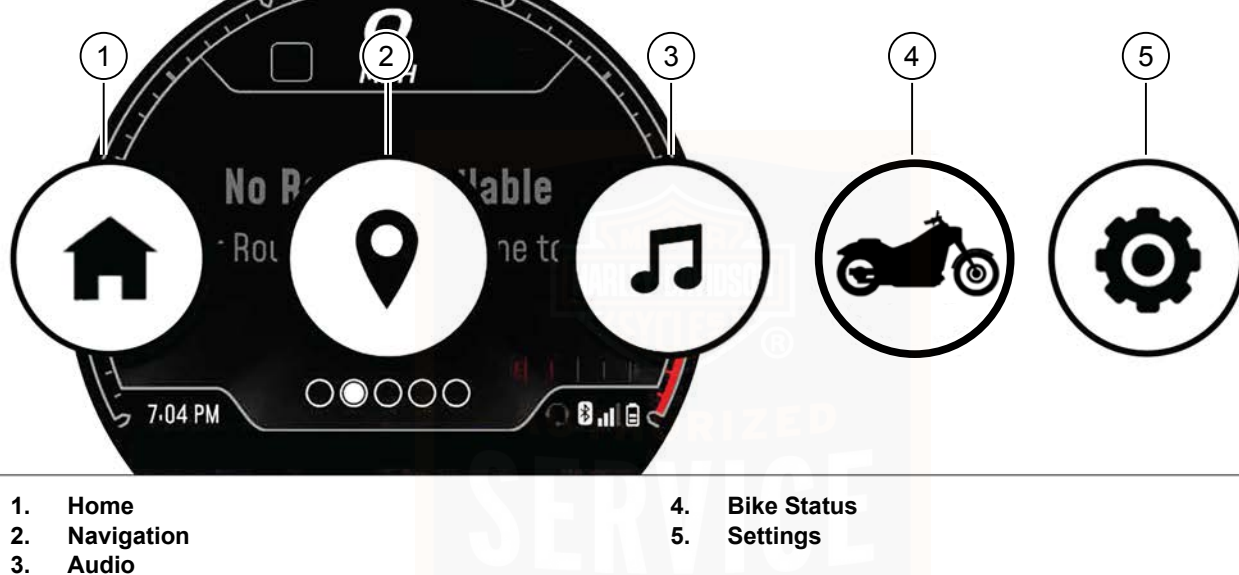

Figure 44. Menu Selections
See Figure 44. To access the menu selections on the IM press the menu button on the Left Hand Control Module (LHCM). Refer to Left Hand Control Switches (Page 91).
2. See Figure 44. **Select:** settings menu (5).
See Figure 44. To access audio functions **Select:** audio card (3).
1. See Figure 44. **Select:** settings menu (5).